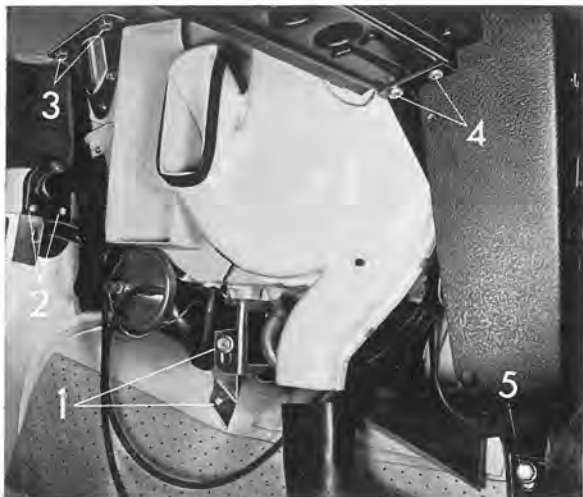

Fig. 8-57. Central unit, left-hand side
3. Unscrew the screws (4 and 5, Fig. 8-57) for the control plate support legs on both sides, and move the plate as far back on the transmission tunnel as the electric cables permit.